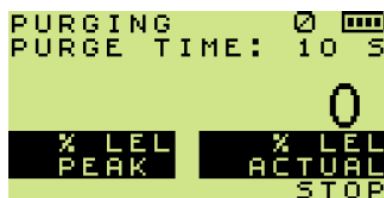

Figure 25: Purge
3. The monitor performs an initial purge, as shown in Figure 25: Purge.